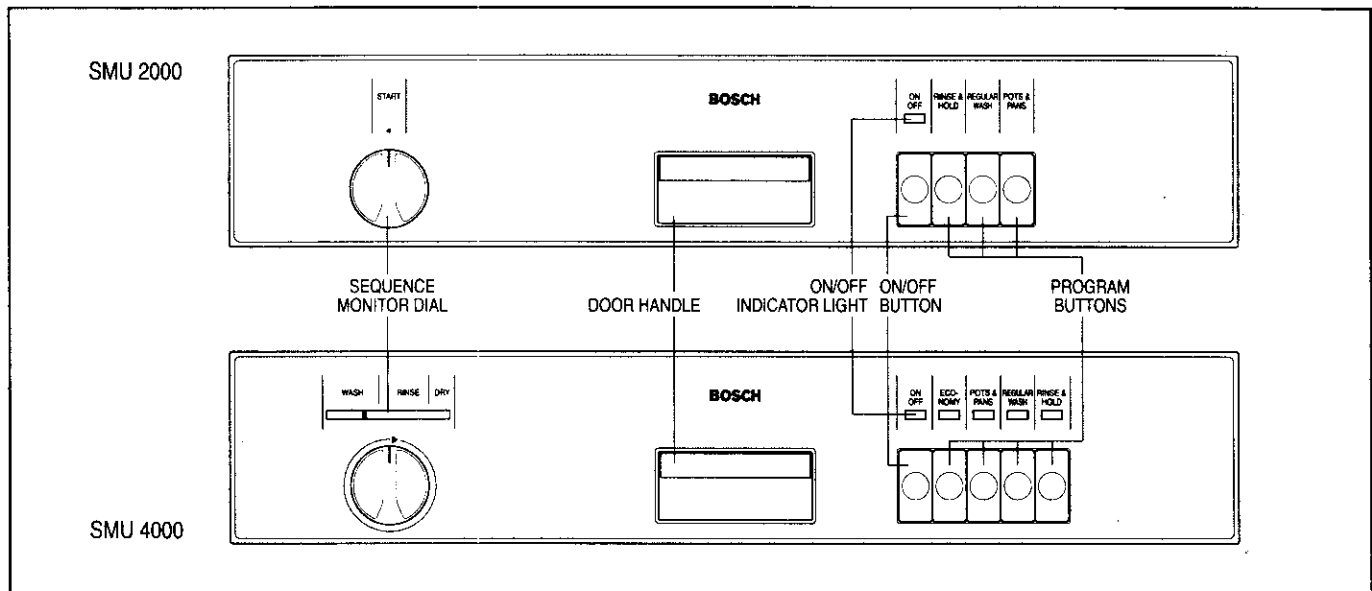

Figure 1.
5. Select a wash program and depress the corresponding program button, see figure 1: